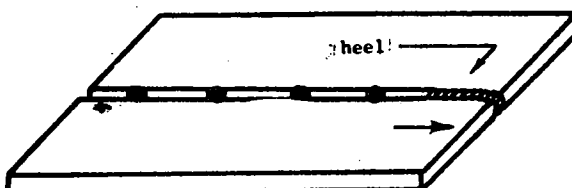

Fig. 2
- e) Start a small bead in the opposite direction to the advance (fig. 2).